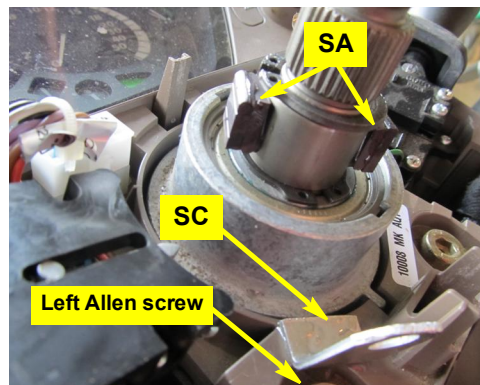

Figure 3: Installed switch bracket and switch
- b. Using the epoxy, attach the prepared switch bracket SC square to the steering shaft between the shaft’s upper bearing housing and the left Allen screw. Attach the bracket with its short side toward the steering shaft (Figure 3).
- c. Using the epoxy, attach the magnets to the steering shaft 180° apart, below the snap ring and centered on the hole in the switch bracket (Figure 3).